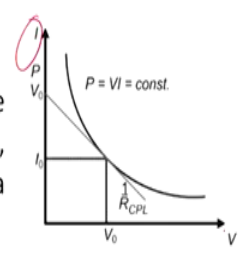

Fig.5 Characteristic I-V curve
- The characteristic current-voltage curve across the CPL is represented in Fig.5
- The rate of change of the current can be obtained by a linear approximation, deriving from Eq. (3) in the small area around the operating point.